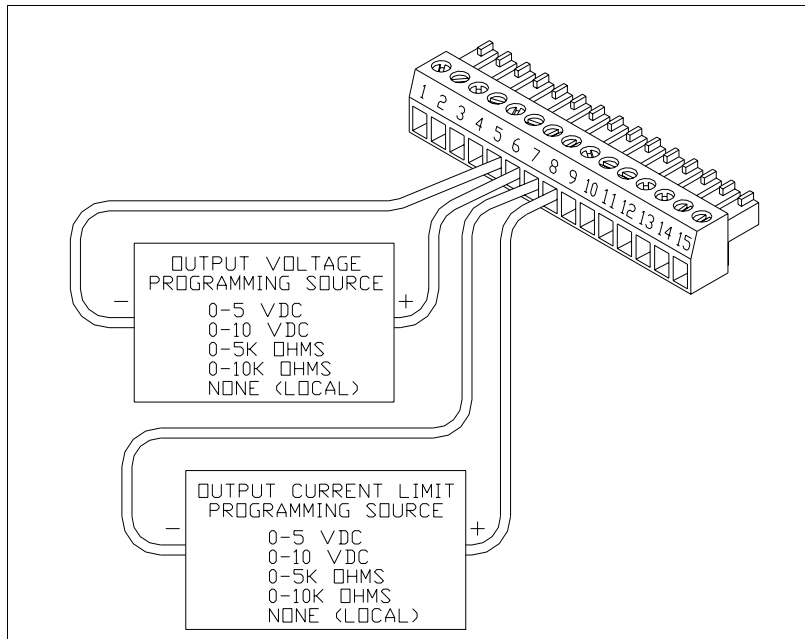

Figure 4.1 Connecting Programming Sources to J2 Connector
4. Connect the programming source(s) to the mating J2 connector as shown in Figure 4.1 and observe the correct polarity for voltage sources. Ensure that the mating connector is plugged securely into the rear panel connector.